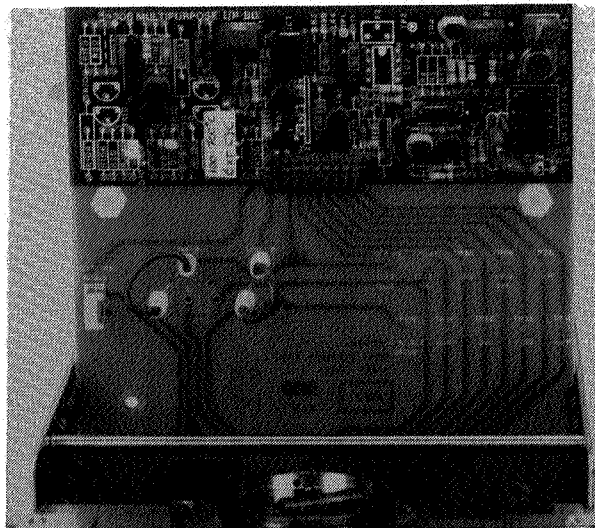

Figure 7.3 INPUT BOARD MOUNTED ON TOP OF EXTENDER CARD
- Mount input board on extender card as shown in Figure 7.3.
- a) Mount the input board on the extender card as shown in Figure 7.3.